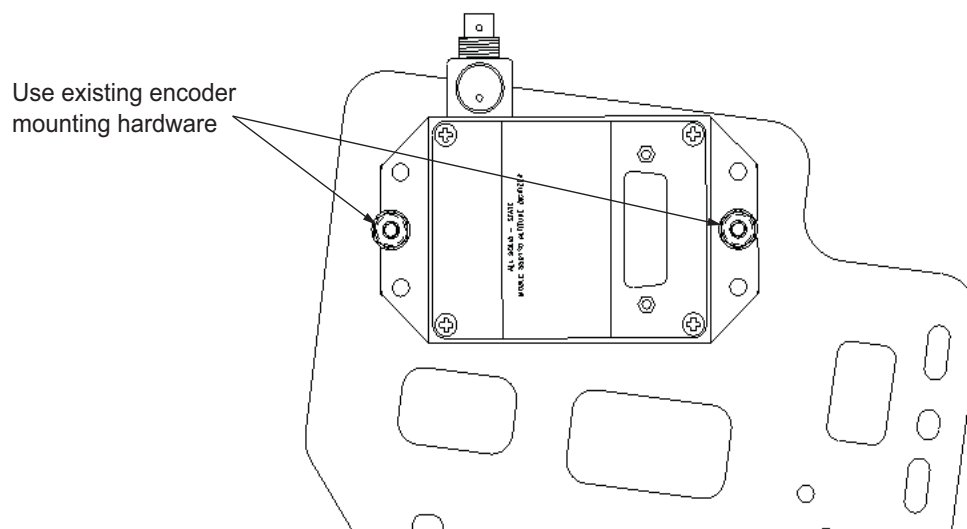

Figure 3
- 10.6.2 Install the encoder to the new support bracket (P/N 22-3412-80-00) using existing encoder mounting hardware. Refer to Figure 3.